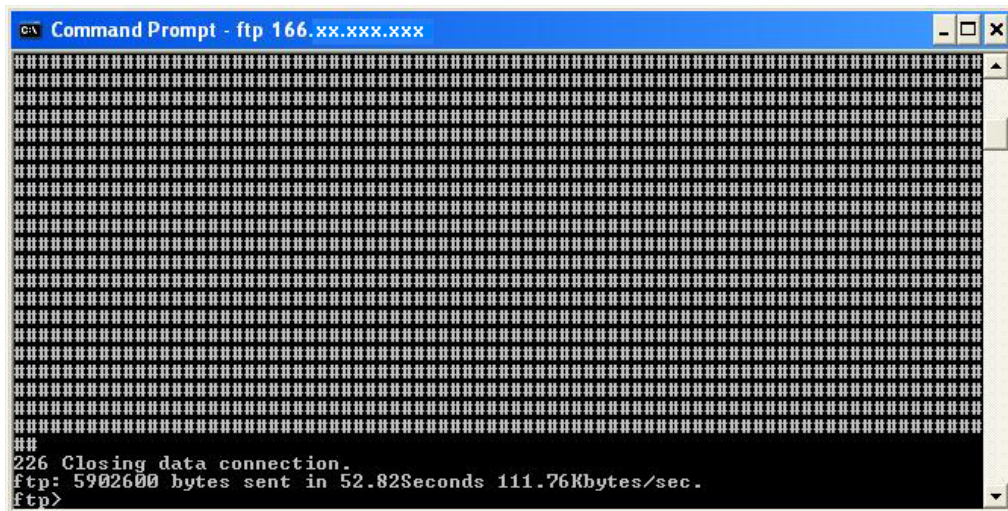

Figure 103. Closing Message
- When the upgrade finishes, the closing message displays (see Figure 103).